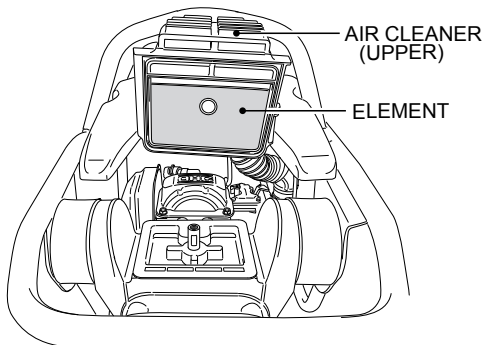

Figure 16. Air Cleaner (Upper)
- Remove the element from the air cleaner cover - upper part (Figure 16) and wash it with gasoline or kerosene. Then dip it in engine oil (SAE10W-30) and squeeze lightly. Reinstall the element.